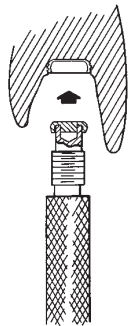

Fig. 9
9. The Locator Male Seating Tool (attached to the Locator Core Tool, Zest order No. 8393) is used to firmly push a Locator Replacement Male into the metal denture cap. (Fig. 9) The Replacement Male must seat securely into place, level with the rim of the cap. (Fig. 10)